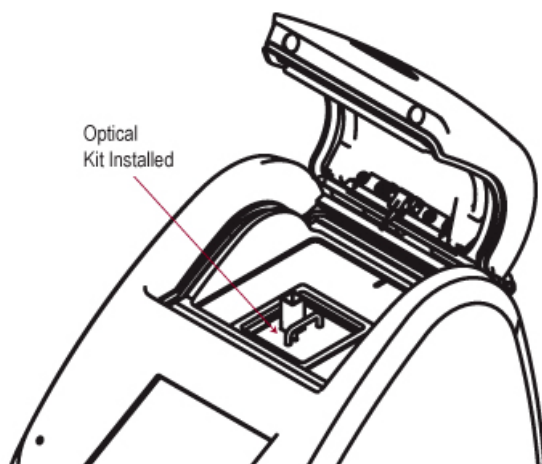

Figure 9.
3. Press down firmly to lock the Optical Application Module in place. (See Figure 9.)